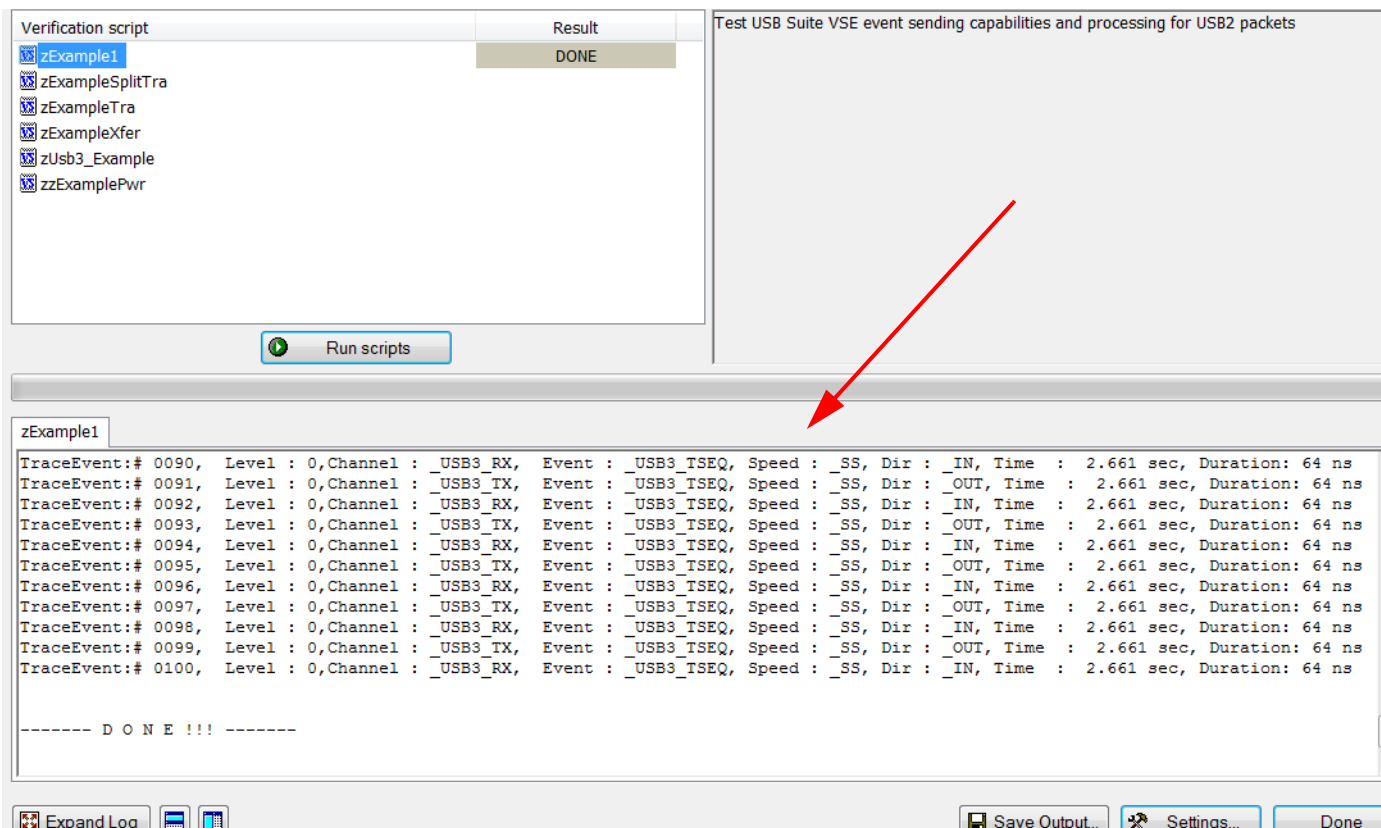

Figure 9.55: Verification Script Results
2. Press the button **Run scripts** after you select scripts to run. VSE starts running the selected verification scripts, shows script report information in the output windows, and presents the results of verifications in the script list (see Figure 9.55 on page 322).